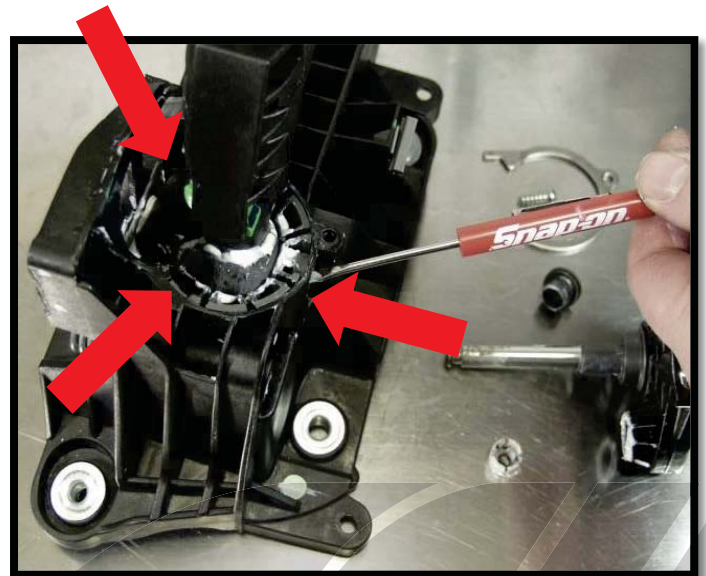

Figure 2e
- f) **Remove the shifter from the housing.** Push the three (3) locking tabs (red arrows in Figure 2e) holding the shifter cup into the housing and pull up on the shifter simultaneously.
f) Remove the shifter from the housing. Push in the three (3) locking tabs (red arrows in Figure 2e) holding the shifter cup into the housing, and pull up on the shifter simultaneously.